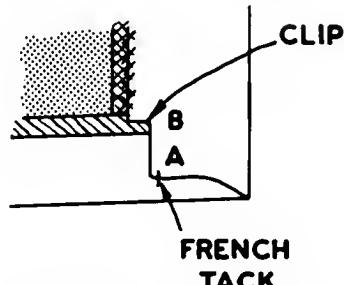

Fig. 230. French tack to hold the facing in position.
- C. A French tack may be used to hold the facing in position (Fig. 230).
- D. The lower edge of the facing and hem is left open (Fig. 230).